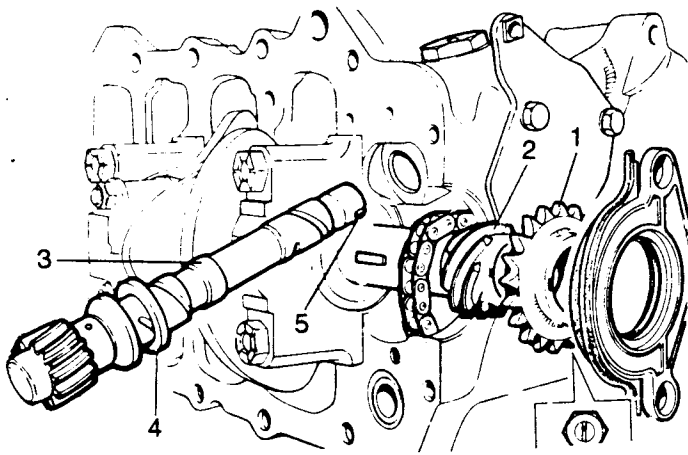
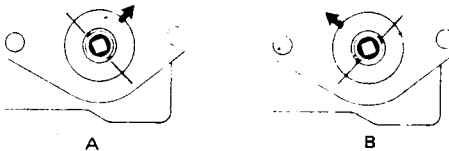

Fig B4.36
Fig B4.37
(10) Refer to Fig B4.36. Move the sprocket (1) and drive gear (2) forwards.
(11) Pull out the distributor drive shaft (3).
2. Fig B4.36 still refers. Replace the distributor drive shaft as follows:
(3) Refer to Fig B4.37. Fit the drive shaft into the housing with the large slot ((5) on Fig B4.36) running in the 10 o'clock/4 o'clock position (Fig B4.37A, shown looking from the top).